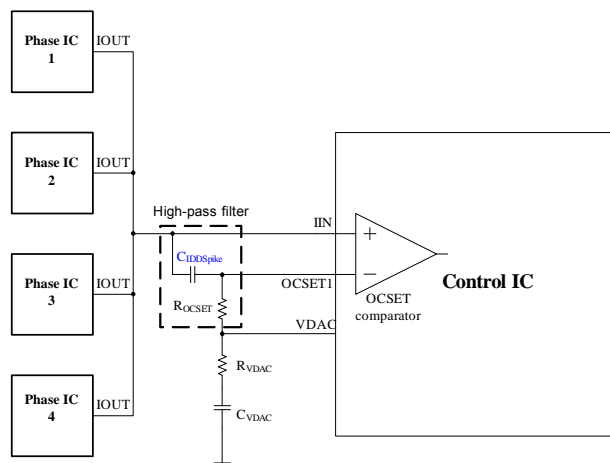

Figure 19 $C_{IDDSpike}$ and R_{OCSET} form a High Pass Filter
The IDD_Spike over current threshold can be implemented by incorporating a properly sized capacitor between the OCSET (18) and the IN1 (21) pins (see Figure 19).